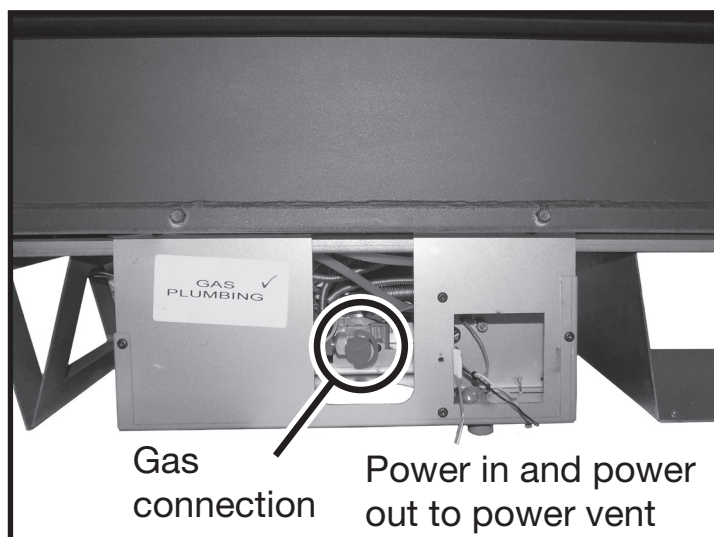

Figure 25: Gas and electrical connection location.
2. Locate the control box on the bottom left hand side of the fireplace (Figure 25).
1. Connect the gas supply to the gas valve. See "Figure 25" on page 16.